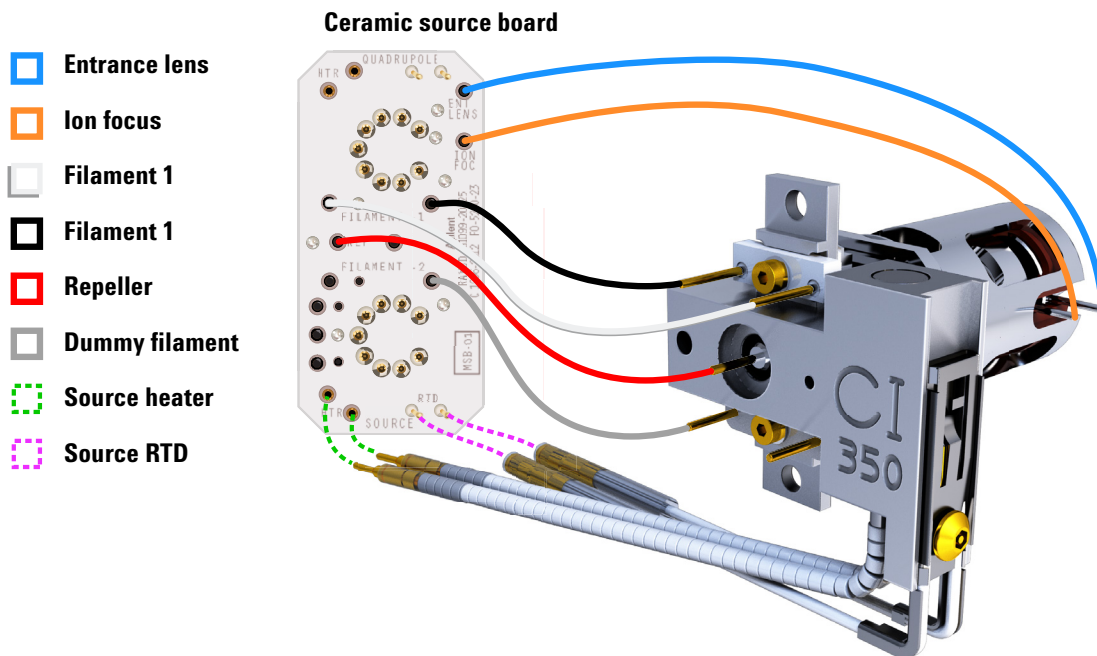

Figure 72 Wiring between the ceramic source board and the source
- 1 Use pliers to connect/disconnect the ceramic board wire leads (red, white, black, and gray) at the source connectors. (See **Figure 72.**)
- 2 Use pliers to connect/disconnect the source heater wire leads at the ceramic source board. (See **Figure 72.**)